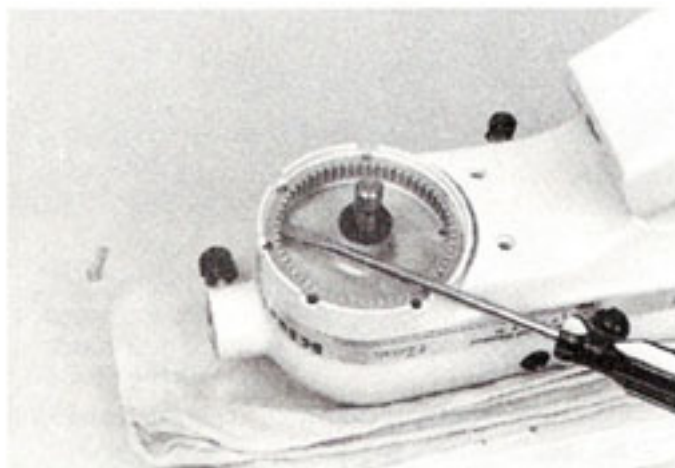
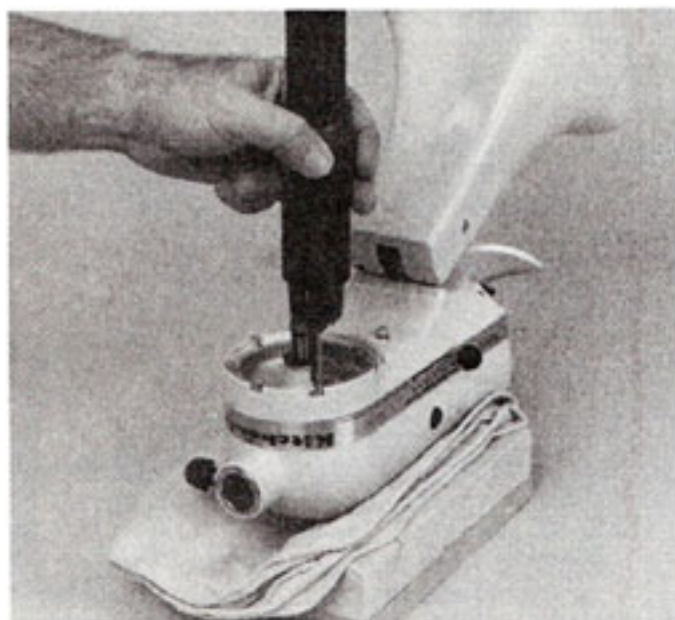
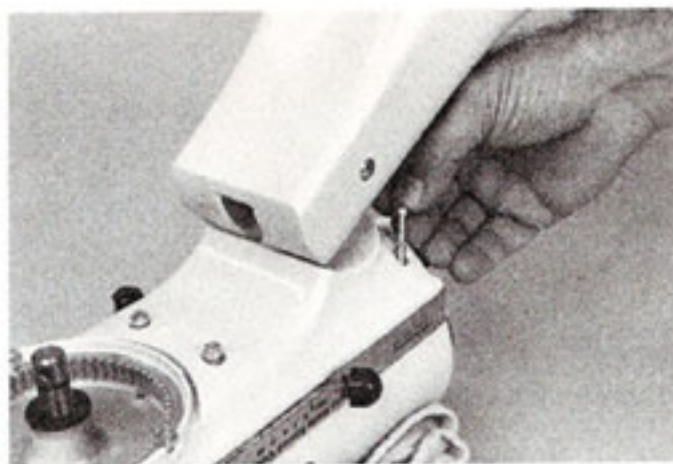

Fig. 63
Fig. 64
Fig. 65
P. If necessary to replace internal gear, pry gear from gear case cover (Fig. 63). When installing new gear, align notches with holes in gear case and tap evenly into place using non-metallic mallet. Turn the five special screws (Fig. 64) evenly and tightly (18-20 in. lbs.). Then screw in the four #10-24 x 1" fillister head screws and turn them in evenly and tightly (Fig. 65).